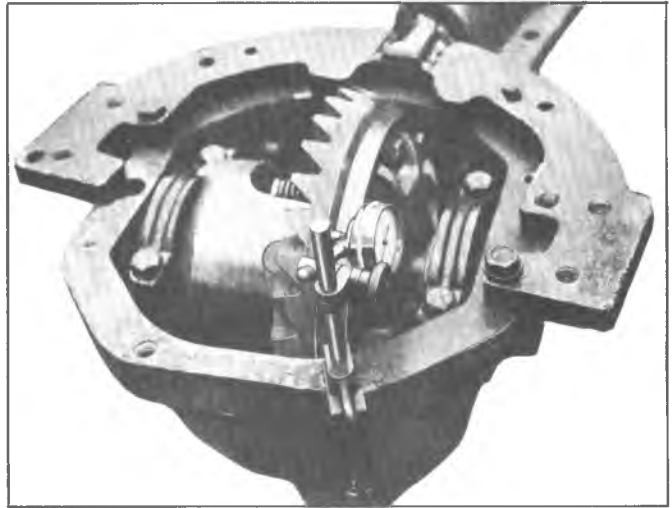

Fig. 13C—Checking Ring Gear Runout
18. If variation in backlash exceeds .003", measure ring gear and case runout as shown in Figure 13C. Gear runout should not exceed .003"; should runout exceed this limit, check ring gear and case for deformation and/or foreign matter between case and gear.